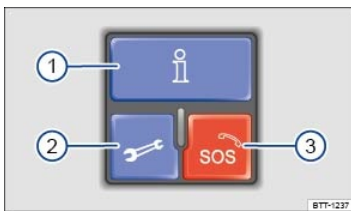

Fig. 12 In the roof console: 3-button module to access Volkswagen Car-Net service operators (Version 2)
You can access Volkswagen Car-Net Security and Service via your Volkswagen Car-Net iPhone® or Android® app (text and data rates apply) and the Volkswagen Car-Net Security and Service website (<http://www.vw.com/carnet>). If you have a question or would like to subscribe, please either press the ⇒ Fig. 12① button in your vehicle or contact the Volkswagen Car-Net Response Center at 1-877-820-2290. For more information or to log on to your Volkswagen Car-Net Security and Service account, visit <http://www.vw.com/carnet>.
The Manual Emergency Call service and all other Volkswagen Car-Net® Security and Service features require a trial or paid subscription. To begin your trial or paid subscription, authentication and activation are required. For more information, please visit the website (<http://www.vw.com/carnet>), press the or ⇒ Fig. 12① button in the 3-button module in your vehicle or contact the Volkswagen Car-Net Response Center at 1-877-820-2290.